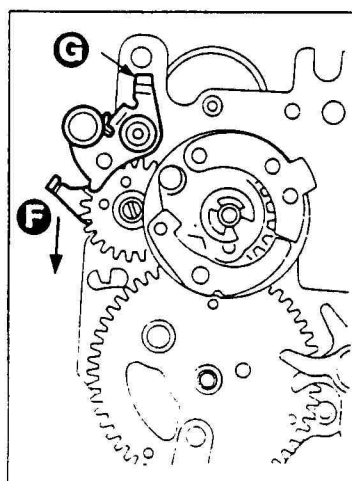

Fig.5
Next, place the substrate F ⑤, when pay attention to the fitting position of the lever ③. (See Fig. 5.)